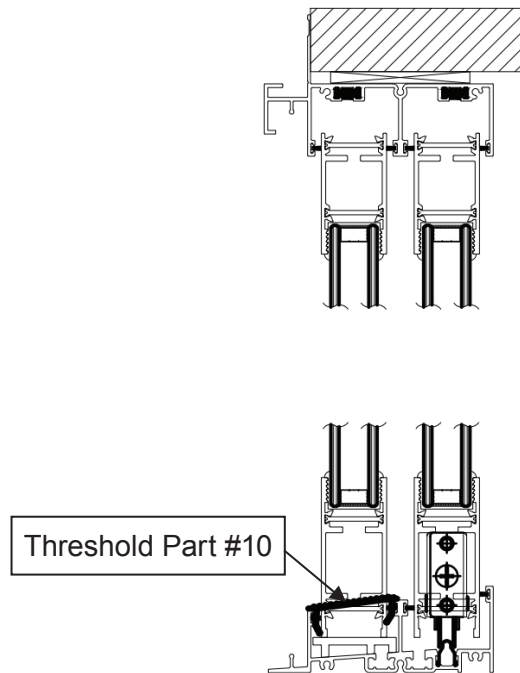

FIGURE 16
19. Install the threshold (Part #10) into the exterior sill track (Part #7) as shown in figure 16.